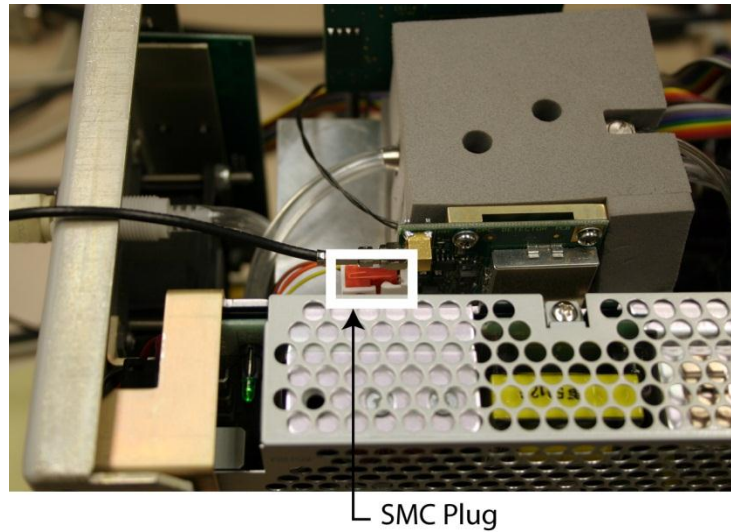

Figure 8-9
3. Connect a “SMC Plug to BNC male” cable (not included) from J101 on the detector board to an oscilloscope as shown in Figure 8-9. The oscilloscope should be 50-ohm terminated. When viewing the signal on the scope, the signal height should be scaled down by a factor of 10. For a typical pulse of 3 volts, the scope will read only 300 mV.